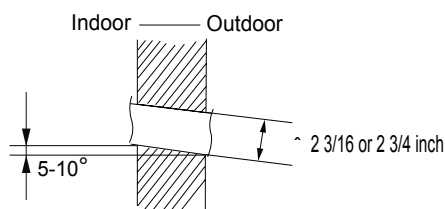

Fig.2
- (2) Open a piping hole with the diameter of 2 3/16 or 2 3/4 inch on the selected outlet pipe position. In order to drain smoothly, slant the piping hole on the wall slightly downward to the outdoor side with the gradient of 5-10°. (As show in Fig.2)